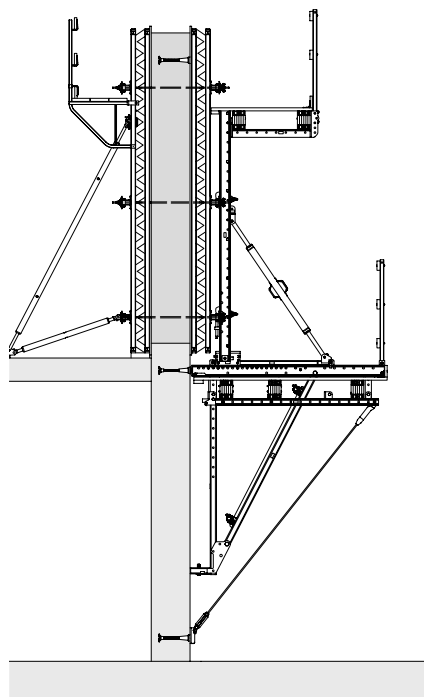

Fig. 09
12. Concrete the second section. (Fig. 09)